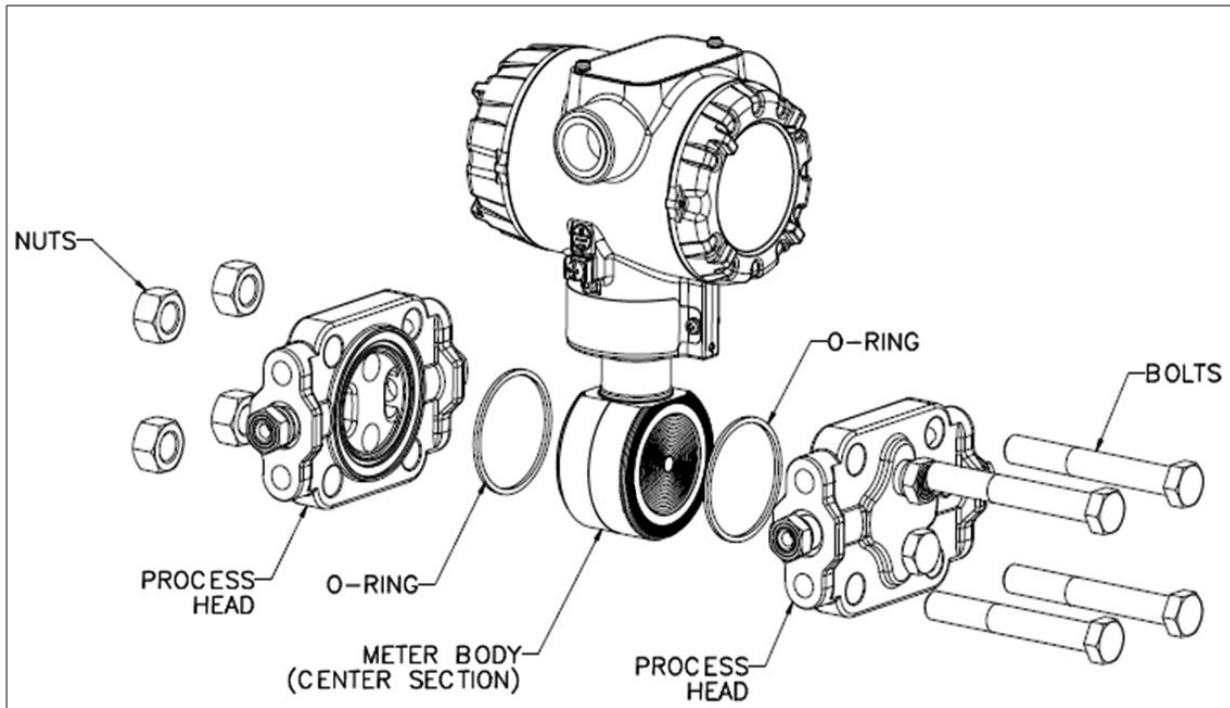

Figure 20 – DP Transmitter Head Disassembly
The following procedure comprises the general steps for inspecting and cleaning barrier diaphragms. You may have to modify these steps to meet your particular process or transmitter model requirements. Figure 20 shows an exploded view of a Differential Pressure (DP) Transmitter meter body for reference. For disassembly/reassembly purposes, Gauge Pressure (GP) and Absolute Pressure (AP) Transmitters are similar.